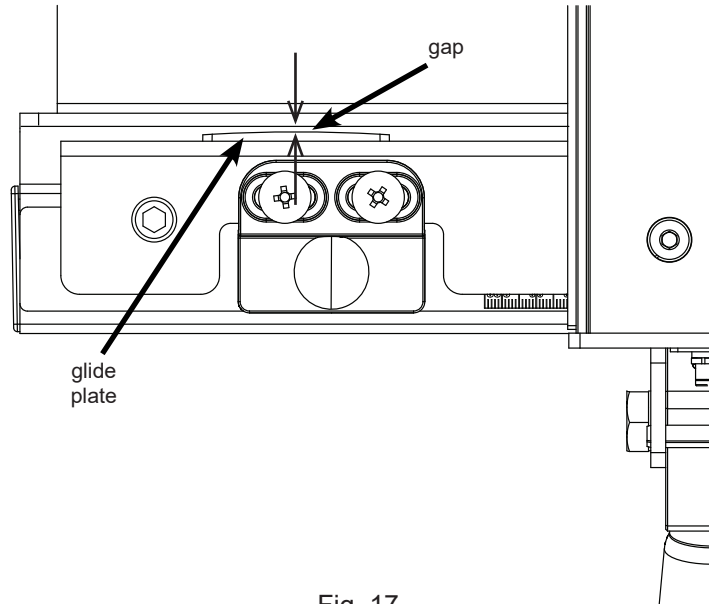

Fig. 17
17. Once the fence is tightly clamped to the main tube, move the left end of the main tube back toward the saw until there is only a small gap (approximately 1/16") between the front rail and the rear face of the glide plate on the fence (see Fig. 17). Tighten the left-most M8x1.0x16 hex head bolt that holds the main tube to the front rail using a 13 mm wrench. Be careful not to over-tighten the bolts because you may strip the threads in the main tube (recommended torque = 8.0 ft·lbs).